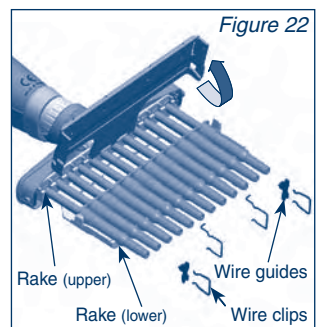

Figure 22
- Lay the pipette flat and push awards (with your thumbs) on the catches at either side of the piston-tray cover (figure 22). The cover will flip upwards to reveal piston and tip-holder assemblies.